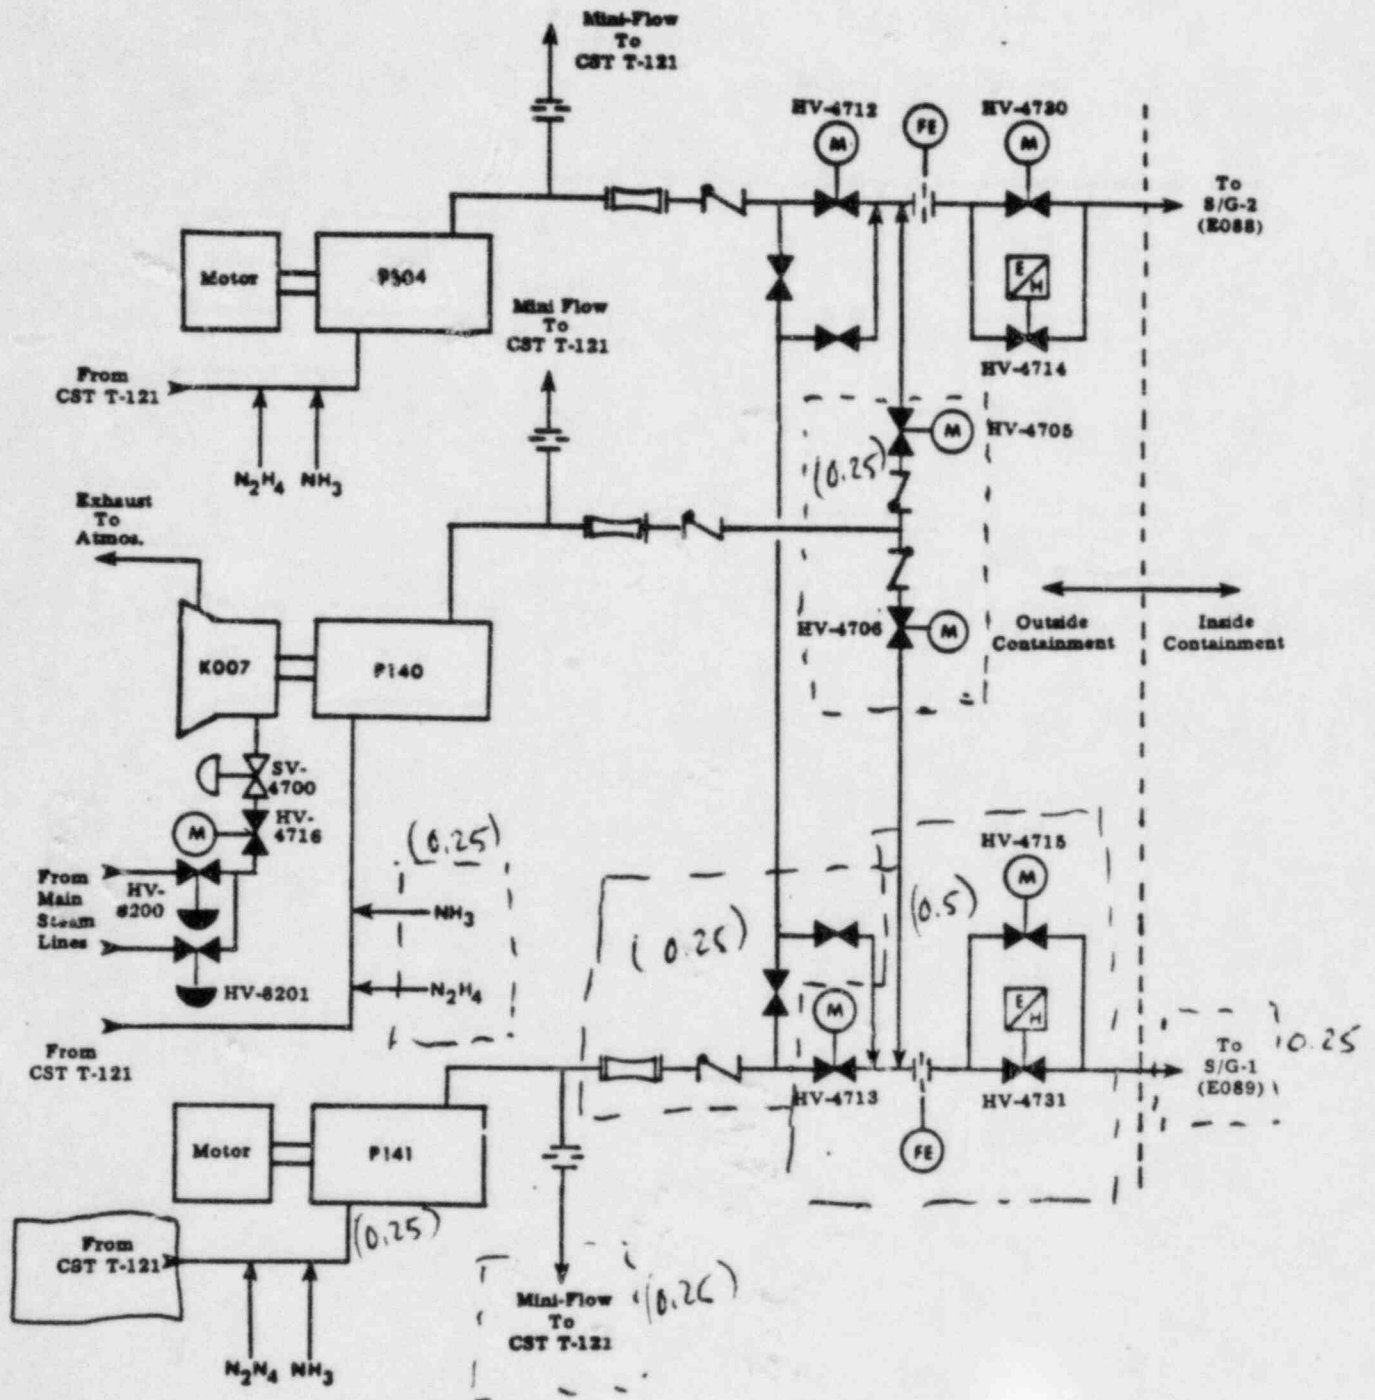

Figure 2-1
- See attached sheet Figure 2-1.